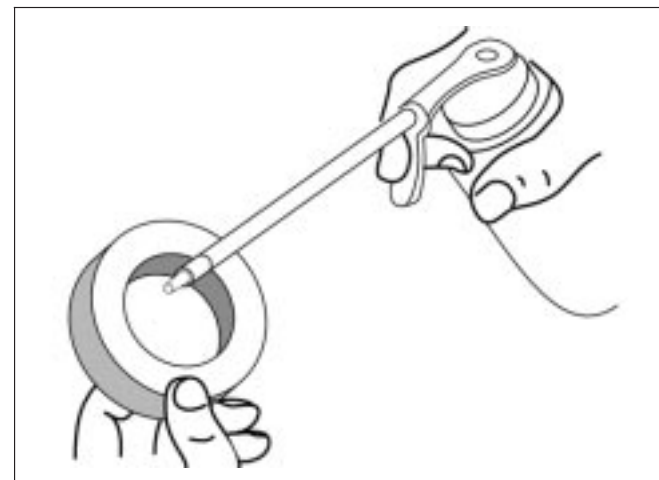

Figure 1-9. Oiling Air Filter Element.
3. Apply clean SAE 30 oil to the air filter (Figure 1-9).